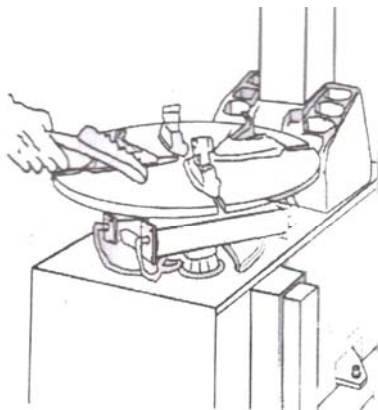

Fig 28
- Use the diesel oil to clean the turntable jaw and guide rail and use the Lithium grease to lubricate(Fig 28)